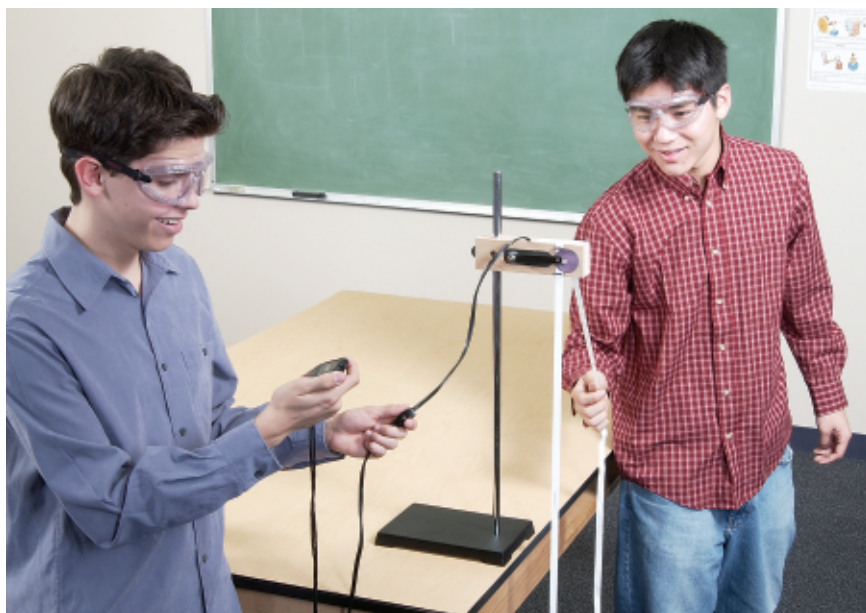

Figure 1
5. Insert a strip of paper tape about 2.0 m long into the timer so that the paper can move freely and will be marked as it moves. Lay the tape flat behind the timer. As shown in **Figure 1**, one student should hold the end of the tape in front of the timer.